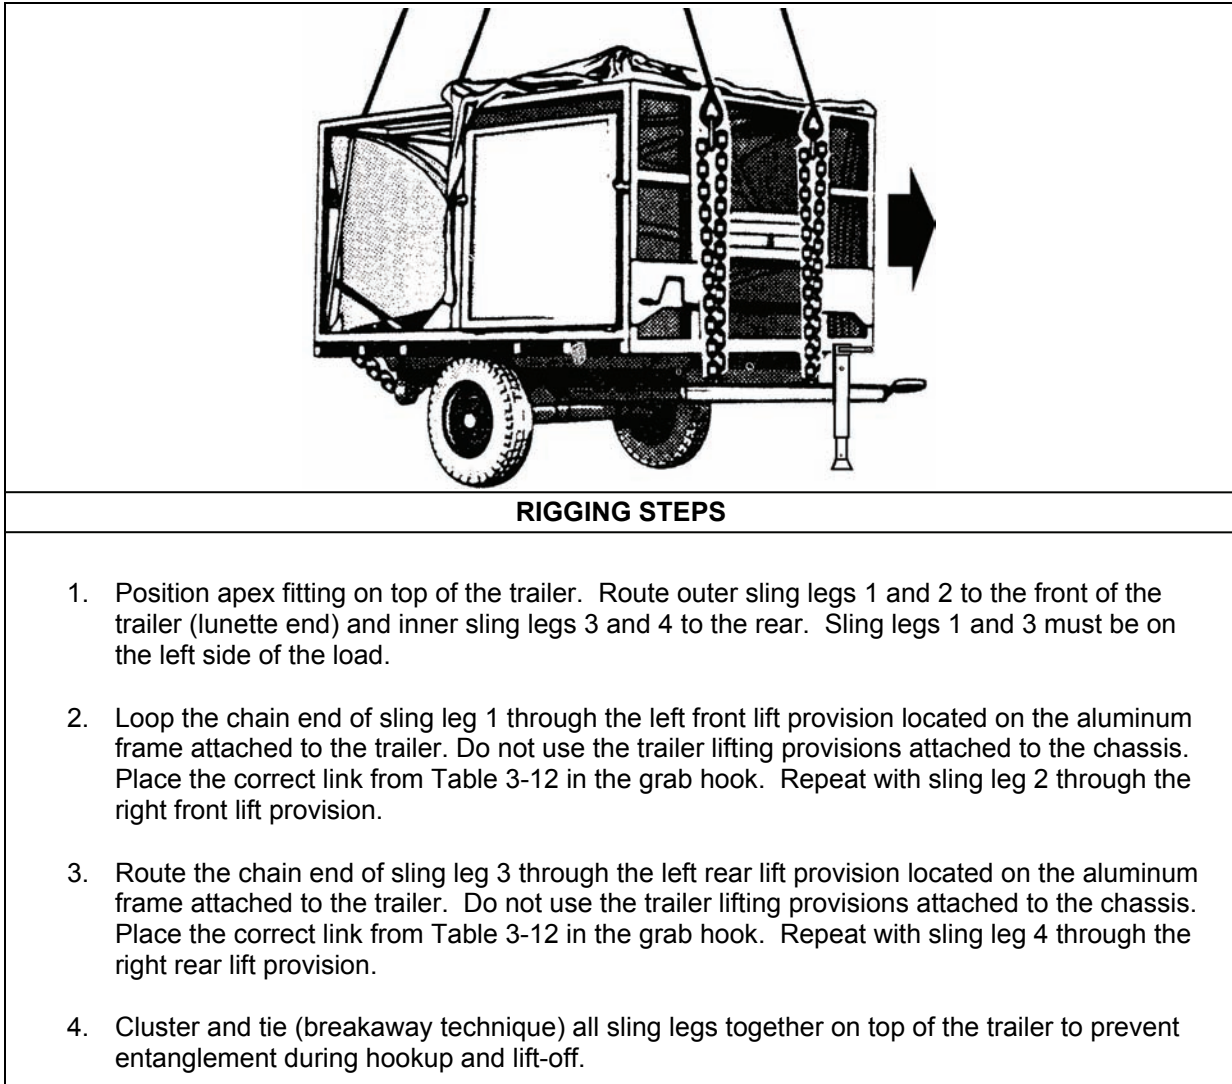

Figure 3-12. M116A2 Trailer with Antenna Groups, AS-3954/TRC (2 each)
- **Rigging.** Rig the load according to the steps in Figure 3-12.